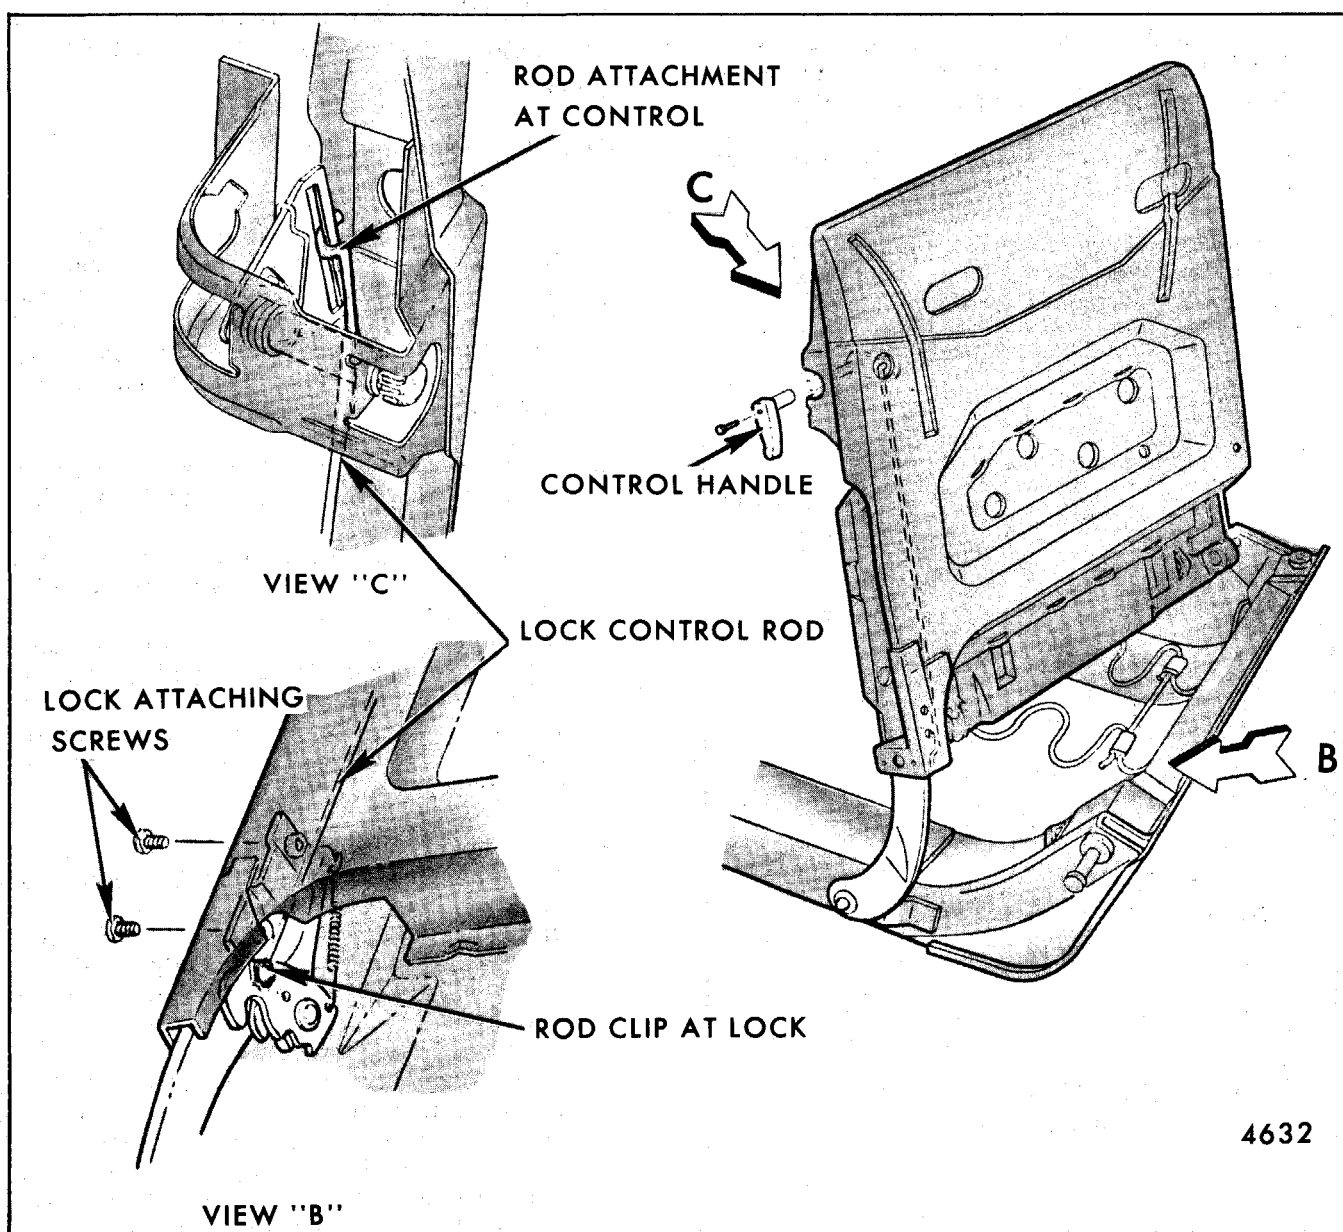
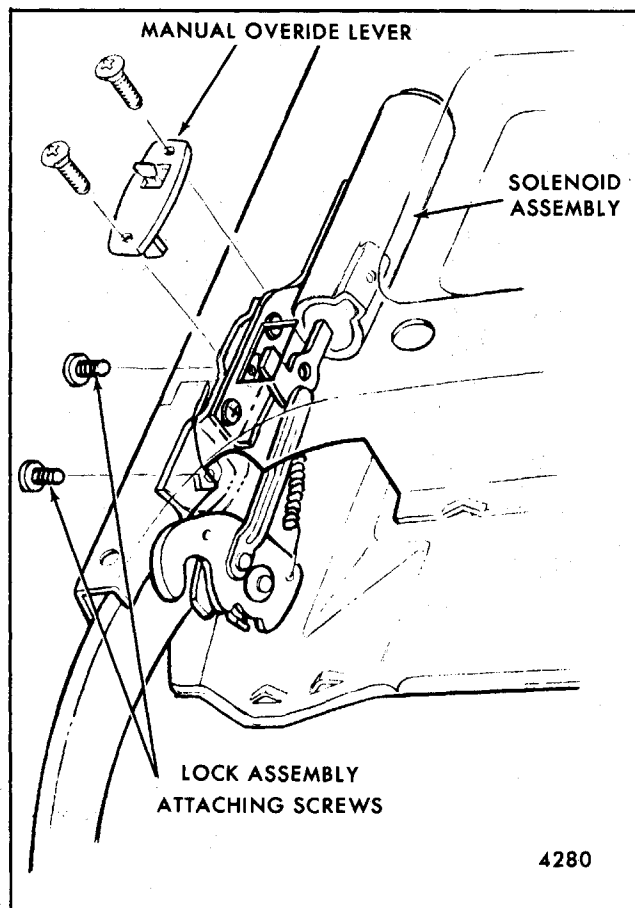

Fig. 9-52-Front Seat Back Manually Operated Lock - Oldsmobile "E" Body Styles with Full Width or 60-40 Seats and Chevrolet Monte Carlo with 50-50 Seats
Fig. 9-53-Front Seat Back Electrically Operated Lock - "E"
5. Remove hog rings securing seat back front and rear trim facings and foam pad facing along bottom of seat back; then turn up trim and carefully pull out foam pad sufficiently to gain access to lock attaching bolts (Fig. 9-52 or 9-53).
6. On manually operated seat back lock, disengage lock connecting rod clip (Fig. 9-52) and detach rod from lock. To disengage clip it is usually necessary to damage or break clip. On electrically operated seat back lock, disconnect feed connector from lock solenoid.
7. Remove seat back lock attaching bolts (Fig. 9-52 for manual lock, Fig. 9-53 for electric lock); then remove lock assembly from seat back.
4. To remove seat back lock to control connecting rod, disengage rod clip at lock (Fig. 9-52, View "B"); then rotate rod counterclockwise on driver's seat back or clockwise on passenger's seat back to disengage hooked upper end of rod from slot in control plate and remove connecting rod (see Fig. 9-52).